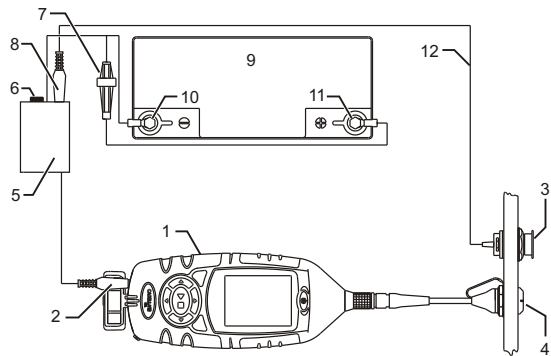

Figure 1. CEL-6847 Environmental Noise Kit
Connect the preamplifier end of the sound level meter to the captive preamplifier cable, and then install the instrument into the shaped cutout. The sound level meter must be used only with a remote microphone attached via the weatherproof connector (item 4 in Figure 1).
Use the cables supplied to make all the connections shown in Figure 1, but make sure the battery is the LAST item connected. Fit each item into its shaped foam cutout inside the case.
CEL-6847 Environmental Noise Kit (see Figure 1)
Connect the cable for the microphone to the weatherproof connector (item 4 in Figure 1). Mount the remote preamplifier, microphone and weather protection system on a tripod or other suitable fixture. Follow the instructions supplied with the CEL-6737 outdoor microphone enclosure to install this item.